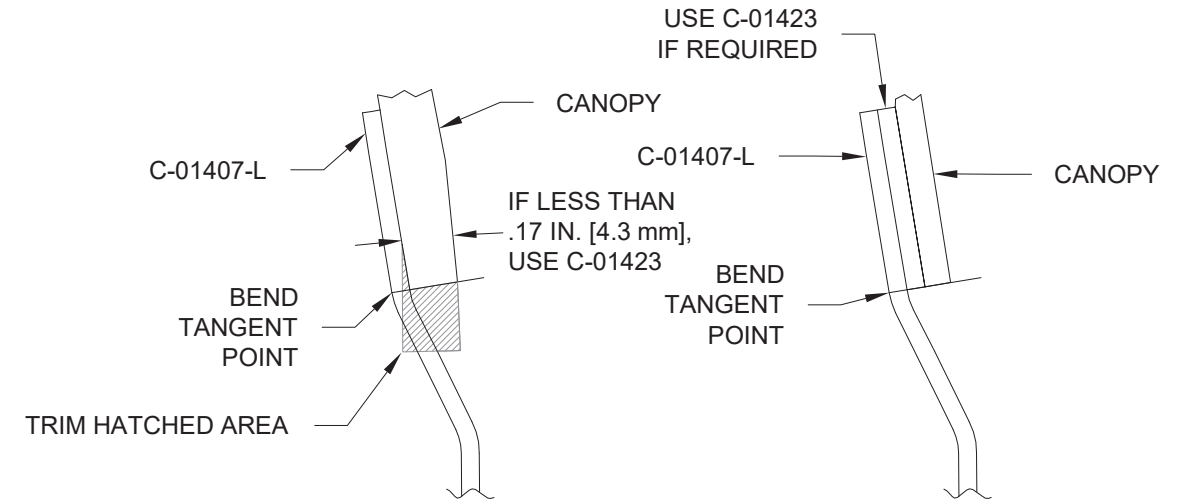

FIGURE 3: CANOPY TO AFT SIDE RAIL INTERFACE
Step 6: The sides of the canopy may be in contact with the C-01407-L & -R Aft Canopy Rails below the bend tangent point called out in Figure 3. Contact below this point will undesirably lift the sides of the canopy away from the rail. Trim the bottom edge of the canopy along the aft canopy rails as shown in Figure 3.
Step 7: Measure the thickness of the canopy along the length of the C-01407-L Aft Canopy Rails. If the thickness of the canopy is less than shown in Figure 3, the C-01423 Canopy Shims will be required.
Step 8: Secure the canopy by clecoing the C-01419-L & -R Side Skin, C-01423 Canopy Shims (if required), and C-01437-L & -R Canopy Handles to the Canopy Frame Assembly. See Figure 3 and Page 38-13, Figure 2.